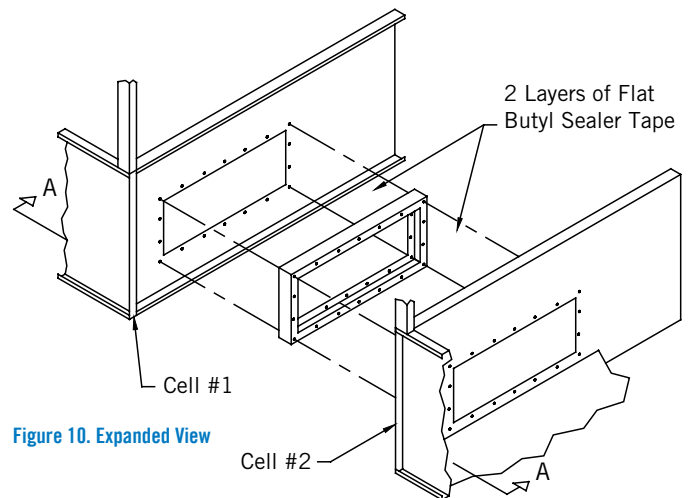

Figure 10. Expanded View
5. Fasten into place as shown in **Figure 10**. For basins with TriArmor® Corrosion Protection System, backing plates are to be installed inside the basin and flume box opening (see **Figure 11, Detail A**). Insert the 3/8” self-tapping screws or bolts in each hole from the flume box into the basin wall and backing strips (if applicable) as illustrated in **Figure 11**.
NOTE: For cold water basins constructed with the TriArmor® Corrosion Protection System, attach the vertical and horizontal backing plates as shown in Figure 10, Detail A.